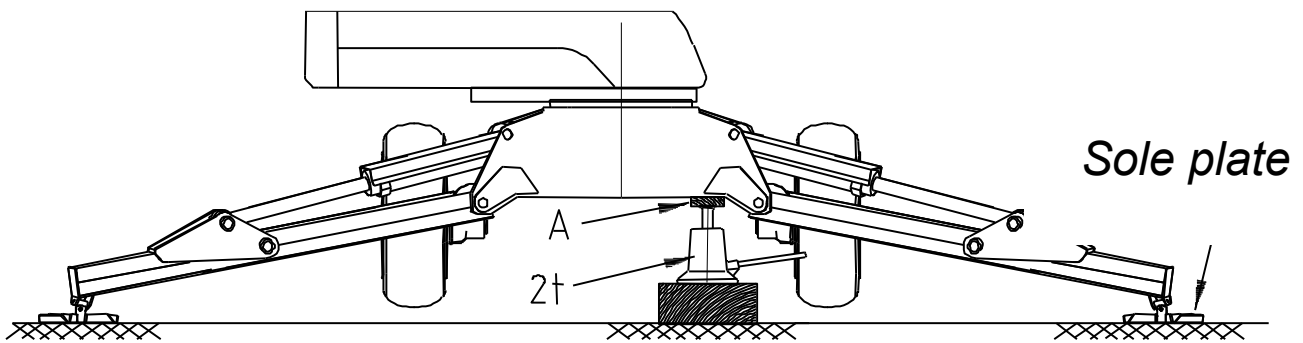

Figure 17
4. Place a jack or a hoist at each outrigger, see figure 17. Place for instance a board (A) between the jack and chassis. Pump the chassis up with the jack so much that the sole of the outrigger comes slightly off the ground, in which case the alarm sound should be heard. The alarm sound stops when the outrigger is lowered back on the ground.